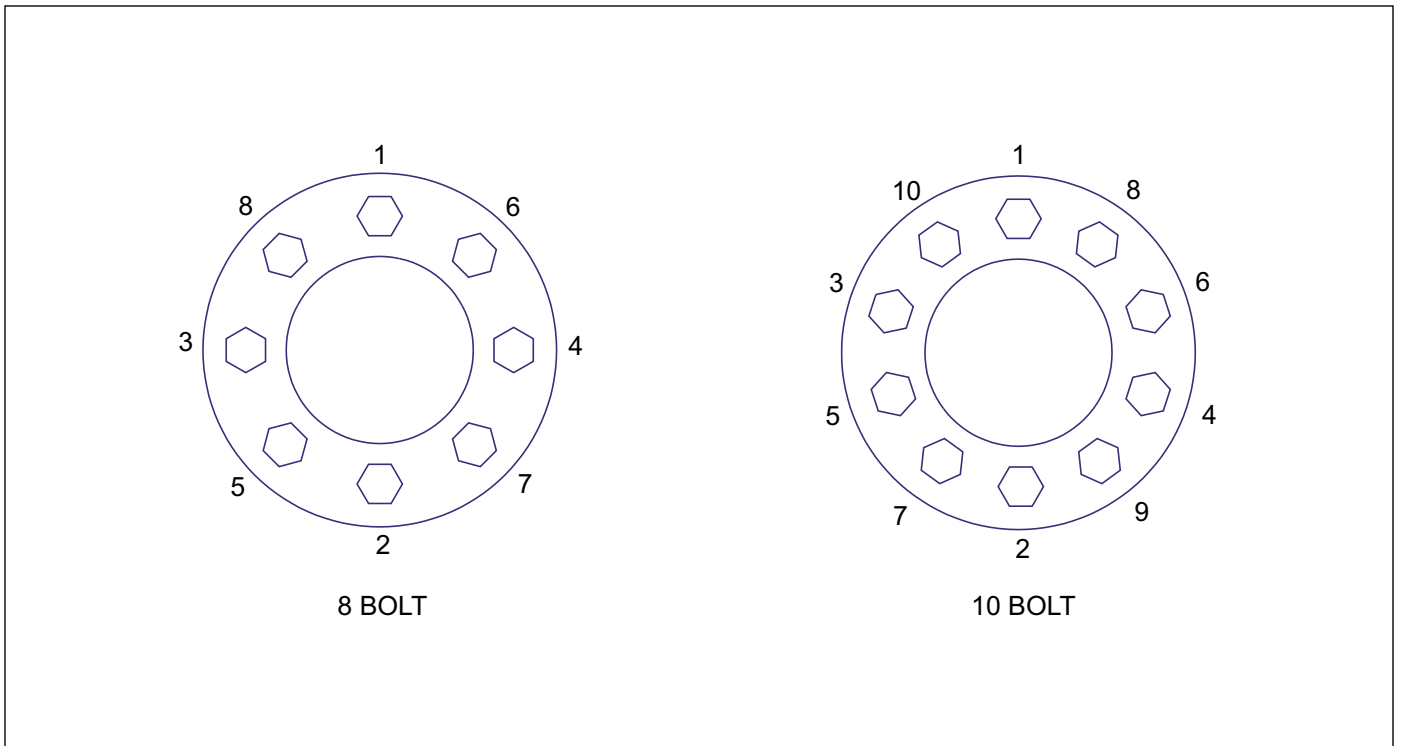

Figure 4-23: Stud Tightening Sequence
4. Install the flange nut and tighten to 50 ft-lbs using the sequence in Figure 4-23. Then tighten to full torque of 450 to 500 ft-lbs.